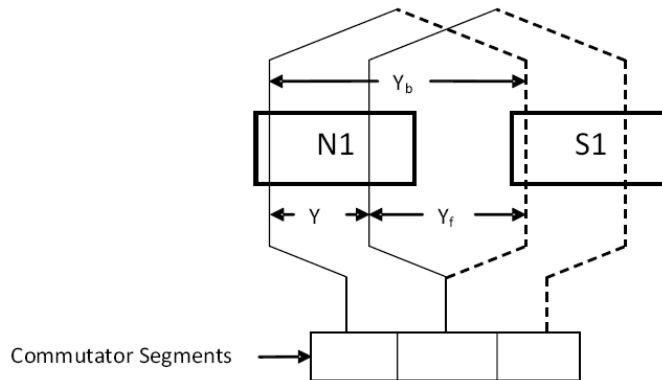

Fig. 6 Lap winding
**Lap Winding:** The winding in which successive coils overlap each other hence it is called lap winding. In this winding end of one coil is connected to the commutator segment and start of the adjacent coil situated under the same pole as shown in fig. 6. Lap winding is further divided as simplex and Duplex lap winding.